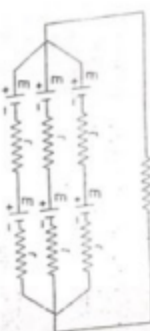

Fig. 9.11 Cells in series and parallel
**9.9 Series-Parallel Combination** A group of same number of cells connected in series may be joined in parallel, thus making a series-parallel combination of cells as shown in Fig. 9.11. The total emf of such a combination is equal to the total emf of one of the series group.